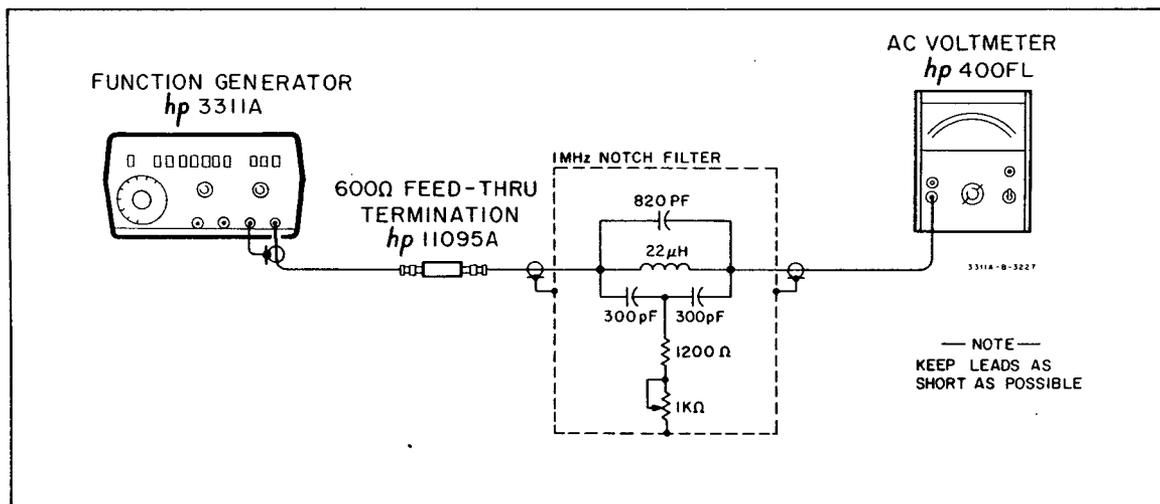

Figure 5-4. 1 MHz Distortion Test.
- Connect the equipment as shown in Figure 5-4. The components for the 1 MHz notch filter are listed in Table 5-1.